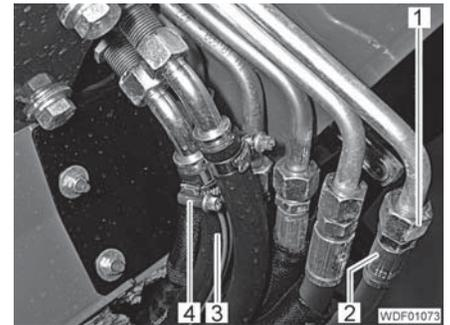

Fig. 334 Hydraulic connections
- Unscrew 5 nuts (Fig. 334,1), remove and close off the hydraulic lines (Fig. 334,2).
- Close off the 2 heating lines (Fig. 334,3) (e.g. using hose clamps).
- Release the 2 clamps (Fig. 334,4) and detach the heating lines.